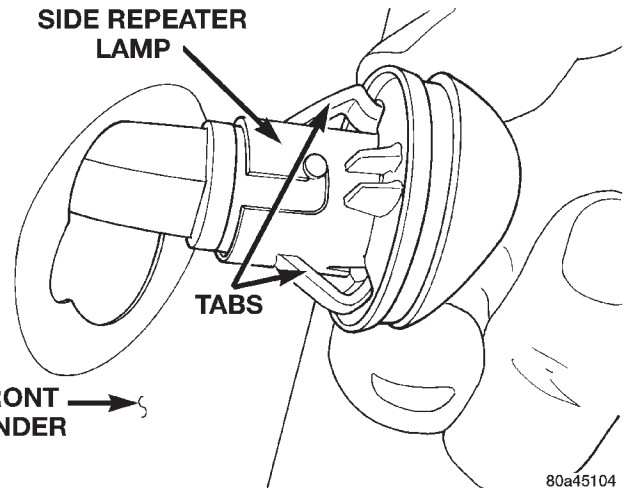

Fig. 6 Side Repeater Lamp
- (3) Depress tabs holding side repeater lamp to fender (Fig. 6).
- (4) Separate side repeater lamp from vehicle.